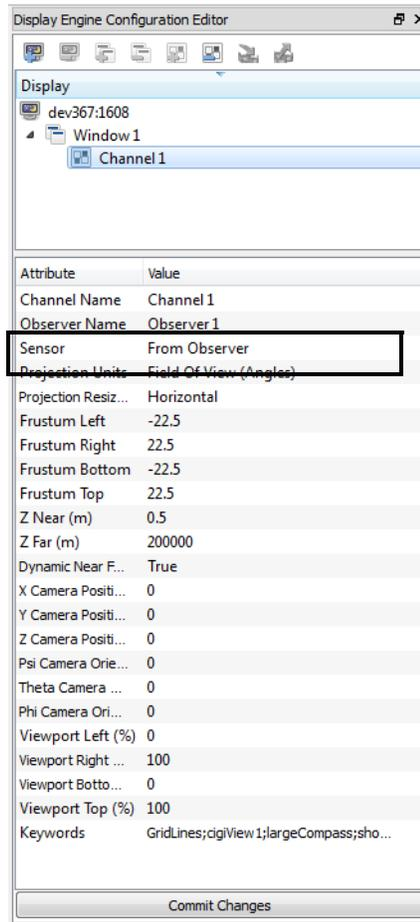

Figure 1-1. Display Engine Configuration Editor
2. Select the channel for the remote display engine. By default, the Sensor attribute has the value From Observer (Figure 1-1).